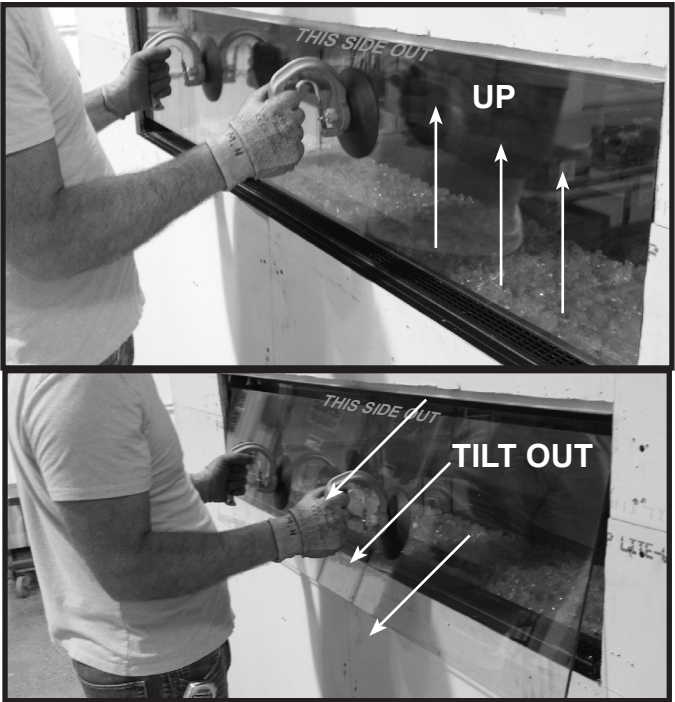

Figure 11.2 Barrier Glass - Clean Face Finish
2. Slide glass straight up behind finishing material. See Figure 11.2.
3. Tilt bottom out as shown in Figure 11.2. Slide glass down to remove it from the appliance.